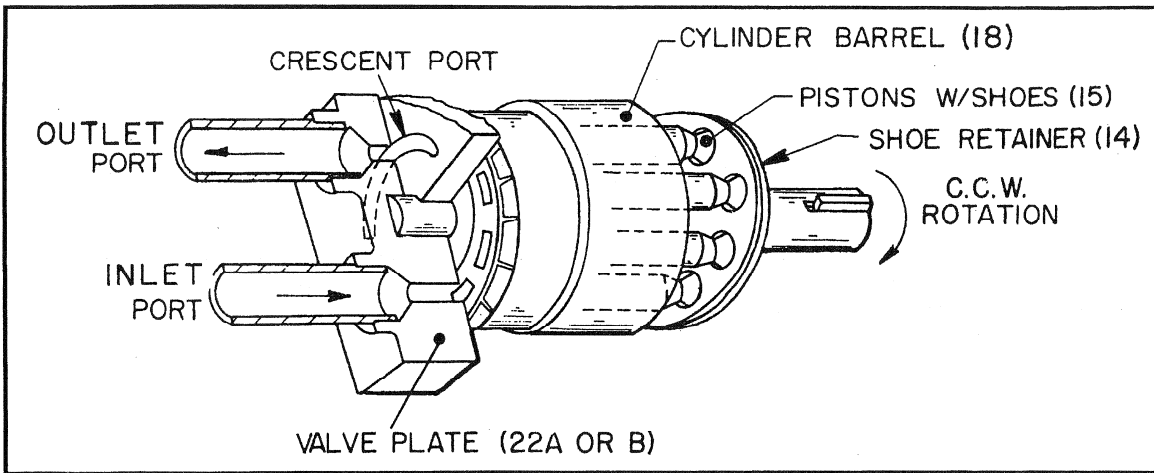

Figure 3. Type "PVWH" Pumping Mechanism (511783).
See Figure 3. Turning the driveshaft rotates the splined cylinder barrel (18) which contains pumping pistons with swivel shoes (15). A shoe retainer (14), backed up by a spring (17) loaded fulcrum ball (16), holds piston shoes against a swashblock (11).